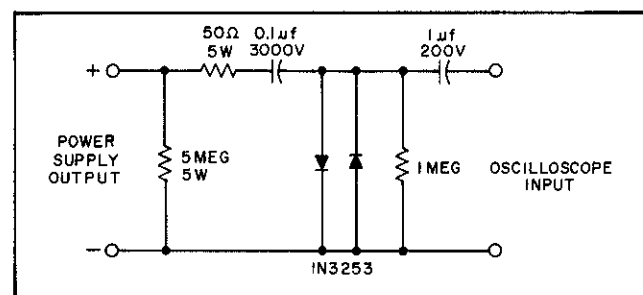
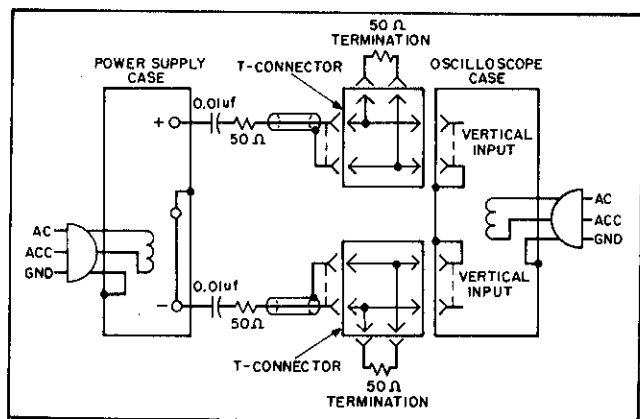

Figure 5-5. High Voltage Protection Network
Figure 5-6. Noise Spikes Test Setup
a. Connect the oscilloscope or RMS voltmeter as shown in Figures 5-4B or 5-4C. In addition, connect the high voltage protection network, illustrated in Figure 5-5, in series with the power supply output. In this network, the diodes clamp the input to the oscilloscope in the event that the power supply is rapidly turned up or down. The 50 ohm resistor limits the current through the diodes. The 5Meg resistor is a bleeder to discharge the 0.1µf capacitor which is a 3000Vdc blocking capacitor. A good quality 3000Vdc blocking capacitor can be used in place of the protection network; however, if the capacitor becomes leaky or in cases where the power supply output voltage is rapidly increased or decreased, the oscilloscope input could be damaged.
1. As shown in Figure 5-6, two coax cables, must be substituted for the shielded two-wire cable. In addition a high voltage protection network (Figure 5-5) as described in paragraph 5-31 should be connected in series with the power supply output.
5-34 The circuit of Figure 5-6 can also be used for the normal measurement of low frequency ripple and noise; simply remove the four terminating resistors and the blocking capacitors and substitute a higher gain vertical plug-in in place of the wide-band plug-in required for spike measurements. Notice that with these changes, Figure 5-6 becomes a two-cable version of Figure 5-4C.